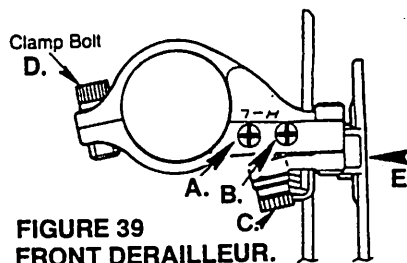
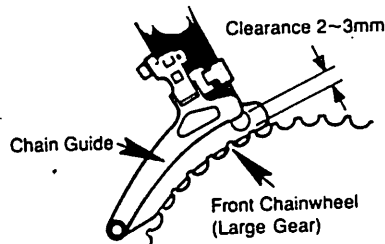

FIGURE 39
FIG. 40: Correct mounting position, shows cage just above and parallel to large chainwheel.
a. Fig. 39 shows the front derailleur. Arrow "A" points to the left adjuster screw, which adjusts how far the derailleur can move the chain to the left, to the small chainwheel. Arrow "B" shows the right adjuster screw which limits how far the derailleur can move the chain to the right, to the big chainwheel. "C" shows the front derailleur cable fixing nut. "D" shows derailleur mounting bolt and nut. "E" shows derailleur cage.
c. If the chain falls to the left, off the chainwheel, between the chainwheel and the bottom bracket housing, adjust as follows: Move the gear shift lever slightly toward the high gear position. Turn the low speed adjuster screw ("A" in Fig. 39) clockwise one turn. Check shifting again, as above. Move low speed adjuster screw as necessary so that when you shift to the low (smallest) gear chainwheel the chain falls on the chainwheel, and does not overshift and fall off the chainwheel to the left.
d. If the chain won't move all the way to the smallest chainwheel, but instead falls between the small and the middle chainwheel, the derailleur may need more cable slack. In that case, move the front shift lever to the low speed position. Loosen the cable fixing nut ("C" in Fig. 39) until the cable is loose. Pull through any excess slack and retighten the cable fixing nut to 34-50 inch/pounds. Check adjustment by holding rear wheel off the ground, turn pedals and shift to the low speed. The chain should move accurately and smoothly to the small chainwheel. If the chain still does not move to the small chainwheel, turn the derailleur low speed adjusting nut ("B" in Fig. 39) counterclockwise one turn. Check shifting as above again and continue to read-
g. If you can't shift to the larger (high speed) chainwheel, the front derailleur cable is too slack. Move the shift lever as far as possible to the low speed position. Turn cable fixing bolt "C" in Fig. 39, counterclockwise until you can pull excess cable through it. Hold cable tight, tighten cable fixing bolt. Check shifting and repeat if necessary.
h. Check position of the derailleur mounting, with respect to the large chainwheel. Fig. 40 shows correct position. The derailleur's outer cage plate ("E" in Fig. 39) should be $\frac{1}{4}$ inch to $\frac{1}{8}$ inch above the largest chainwheel. The derailleur outer cage plate should be parallel to the largest chainwheel, as shown in Fig. 40. If the derailleur cage is not parallel, or at the correct height, loosen the derailleur mounting bolt ("D" in Fig. 39) and move the derailleur to the correct positions as noted above. Tighten mounting bolt to 53 inch/pounds.